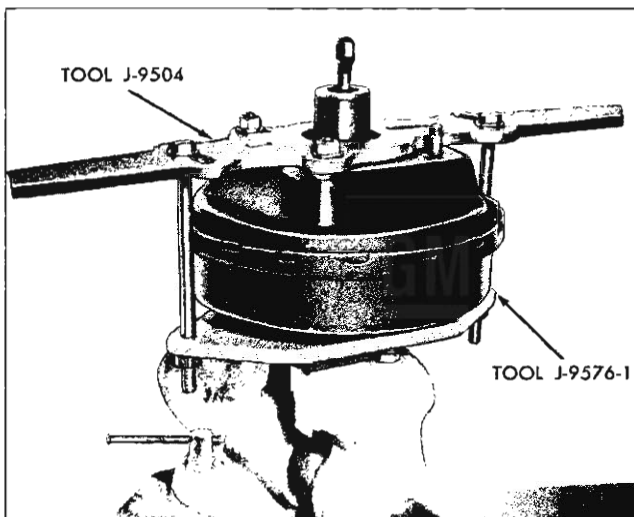

Fig. 18—Separating Shells with Tools J-9504 and J-9576-1
3. Position and secure Tool J-9576-1 (fig. 18) to main cylinder mounting studs, and place tool and power unit in a vise. Be sure to align tool so that check valve in front shell is not damaged.
2. Position and secure Tool J-9576-1 (fig. 18) to main cylinder mounting studs, and place tool and front shell in a vise. Be sure to align tool so that check valve is not damaged.